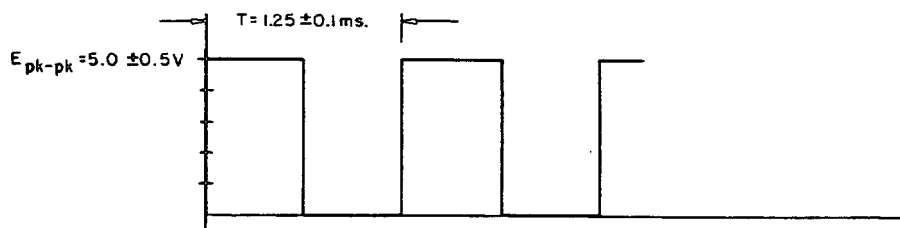

FIGURE 5-2 800 Hz. Reference Waveform
- c) Pin X to Y(-) (Fig.5-2) 5 +/-0.5V pk-pk